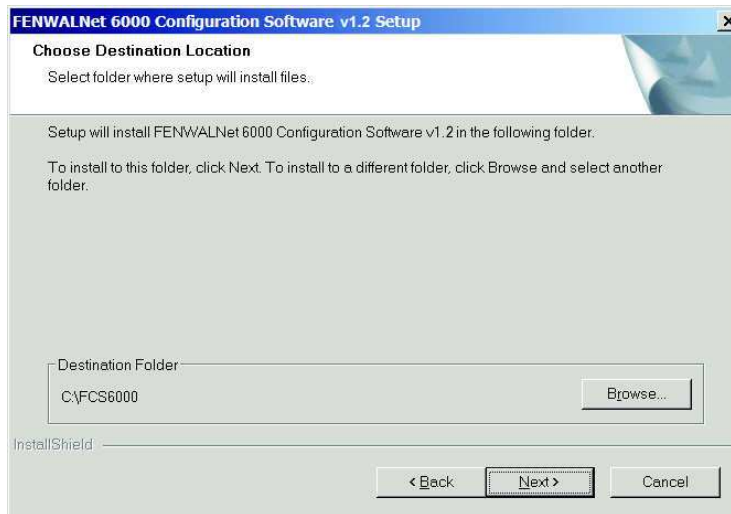
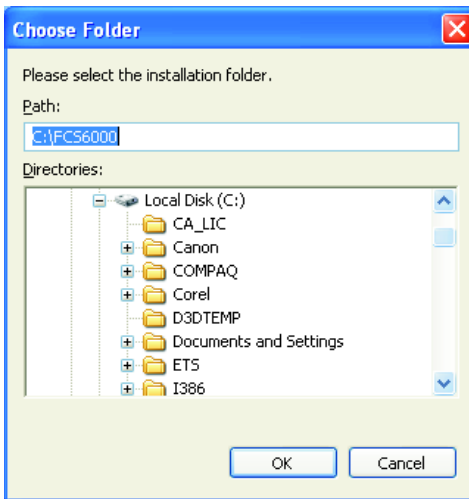

Figure 1-2. Choose Destination Location Screen
Figure 1-3. Choose Folder Screen
4. Choose Destination Location screen (Figure 1-2). Setup automatically defaults to place the program in the C: drive. To choose another location to place the program, click on the **<Browse>** button. The Choose Directory screen displays (Figure 1-3) to allow the user to place the program in a specified location. Click on the **<Next>** button to continue with installation after the destination for FCS 6000 has been chosen.